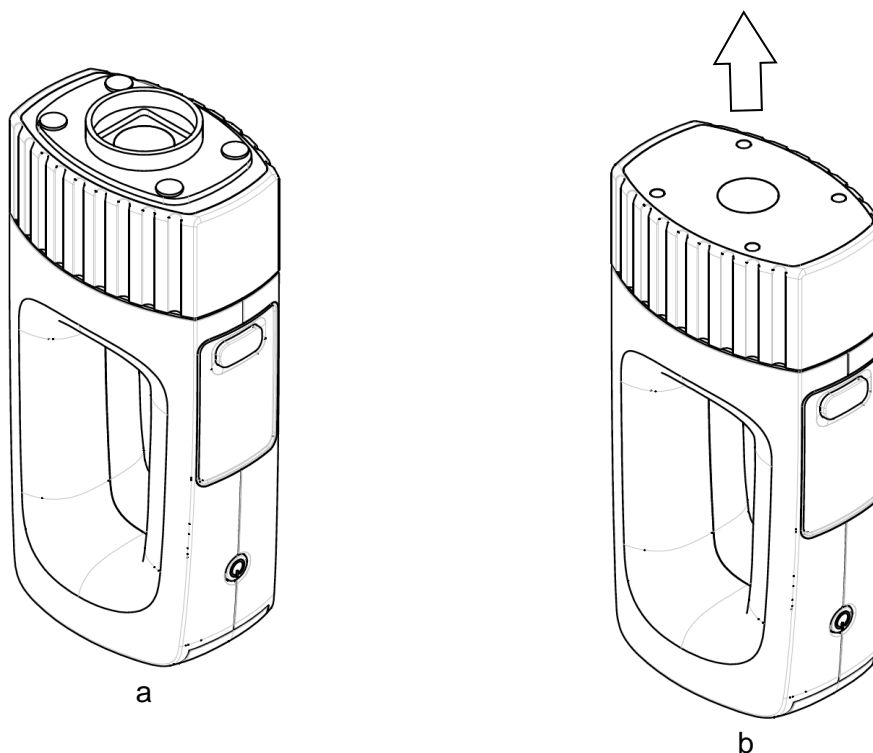

Figure 10 Sample on top of scanner mode
- Place the sample on top of the scanner with the provided sample holder (Figure 10 a) or directly without it using any NIR-transparent container (Figure 10 b).